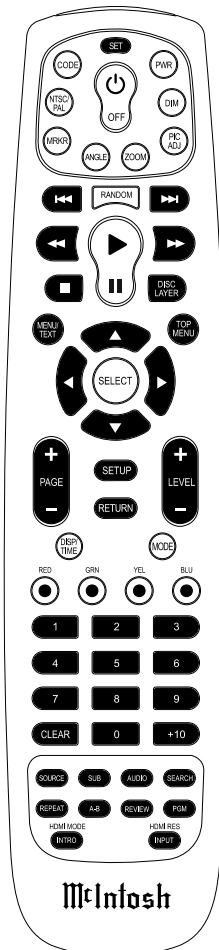

Figure 21
3. The Text Display Mode may be canceled by pressing the DISP/TIME Push-button on the Remote Control. Refer to figure 21.
4. The various Time Modes may be displayed by pressing the DISP/TIME Push-button on the Remote Control. Refer to figure 21. For additional information on the Time Display Modes refer to "Display Modes" on page 20.
playback release the same ►► (Fast Forward) or ◀◀ (Reverse) Push-button. Refer to figure 21.